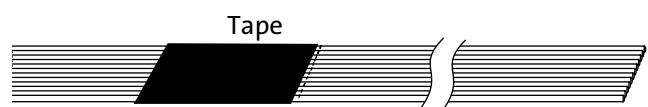

Figure 17
- Step 2:** Wrap the ribbon at the mark with vinyl tape to prevent excessive breakout of the ribbon (Figure 17).